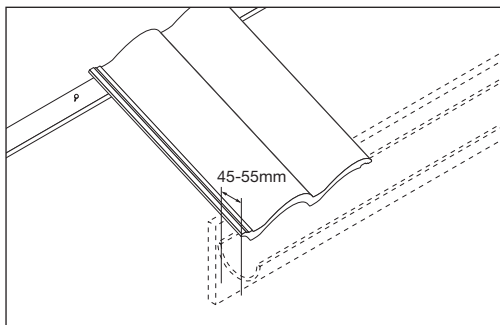

Fig 15 – Measuring gutter overhang
- Tack a short length of batten into position and locate tile over fascia so it hangs the correct amount into centre of gutter (45 to 55mm for a 100mm gutter) (Fig 15).